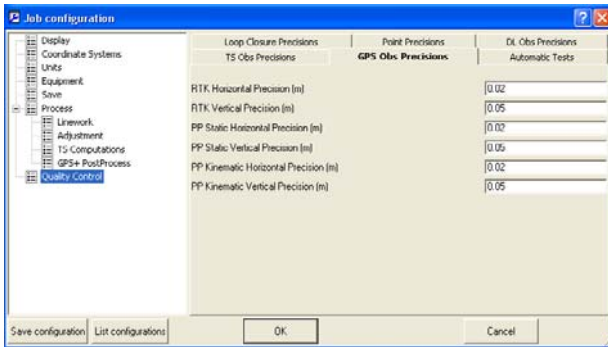

Figure 2-38. Job Configuration – GPS Obs Precisions
- The *GPS Obs Precisions* tab sets horizontal/vertical precisions for RTK vectors and static/kinematic GPS post processing vectors (Figure 2-38 on page 2-32). If the values for horizontal  $\sqrt{(Res(e))^2 + (Res(n))^2}$  and vertical residuals for RTK and GPS post-processed vectors resulting from a net adjustment—with Rejection Criterion-By Control—are worse than the values set in this tab, the observations are highlighted in red on the *GPS Obs* tab, in Map view, and in Reports. If the values of horizontal precision/vertical precision for RTK and GPS post-processed vectors calculated in the process of net adjustment are worse than the values set in this tab, the observations are highlighted in red on the *GPS Obs* tab, in Map view and in Reports, and will not be used in the final adjustment of the network.